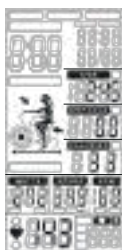

Figure 49
- ⑥ When Heart Rate goes between 65% ~ 85%, only HEART RATE will flash (Figure 49).
- ⑦ No signal input for 30s, buzzer sounds 1 short beep and enter to Wake-up mode.
- ⑧ Press START button once enter into PAUSE mode. Buzzer will sound for 0.5s per second within 30s. All values are displaying on LCD and flashing in every 2s. If continue to stop training for 5 minutes, buzzer sounds 2s and enter to Wake-up mode. Press START to resume workout.